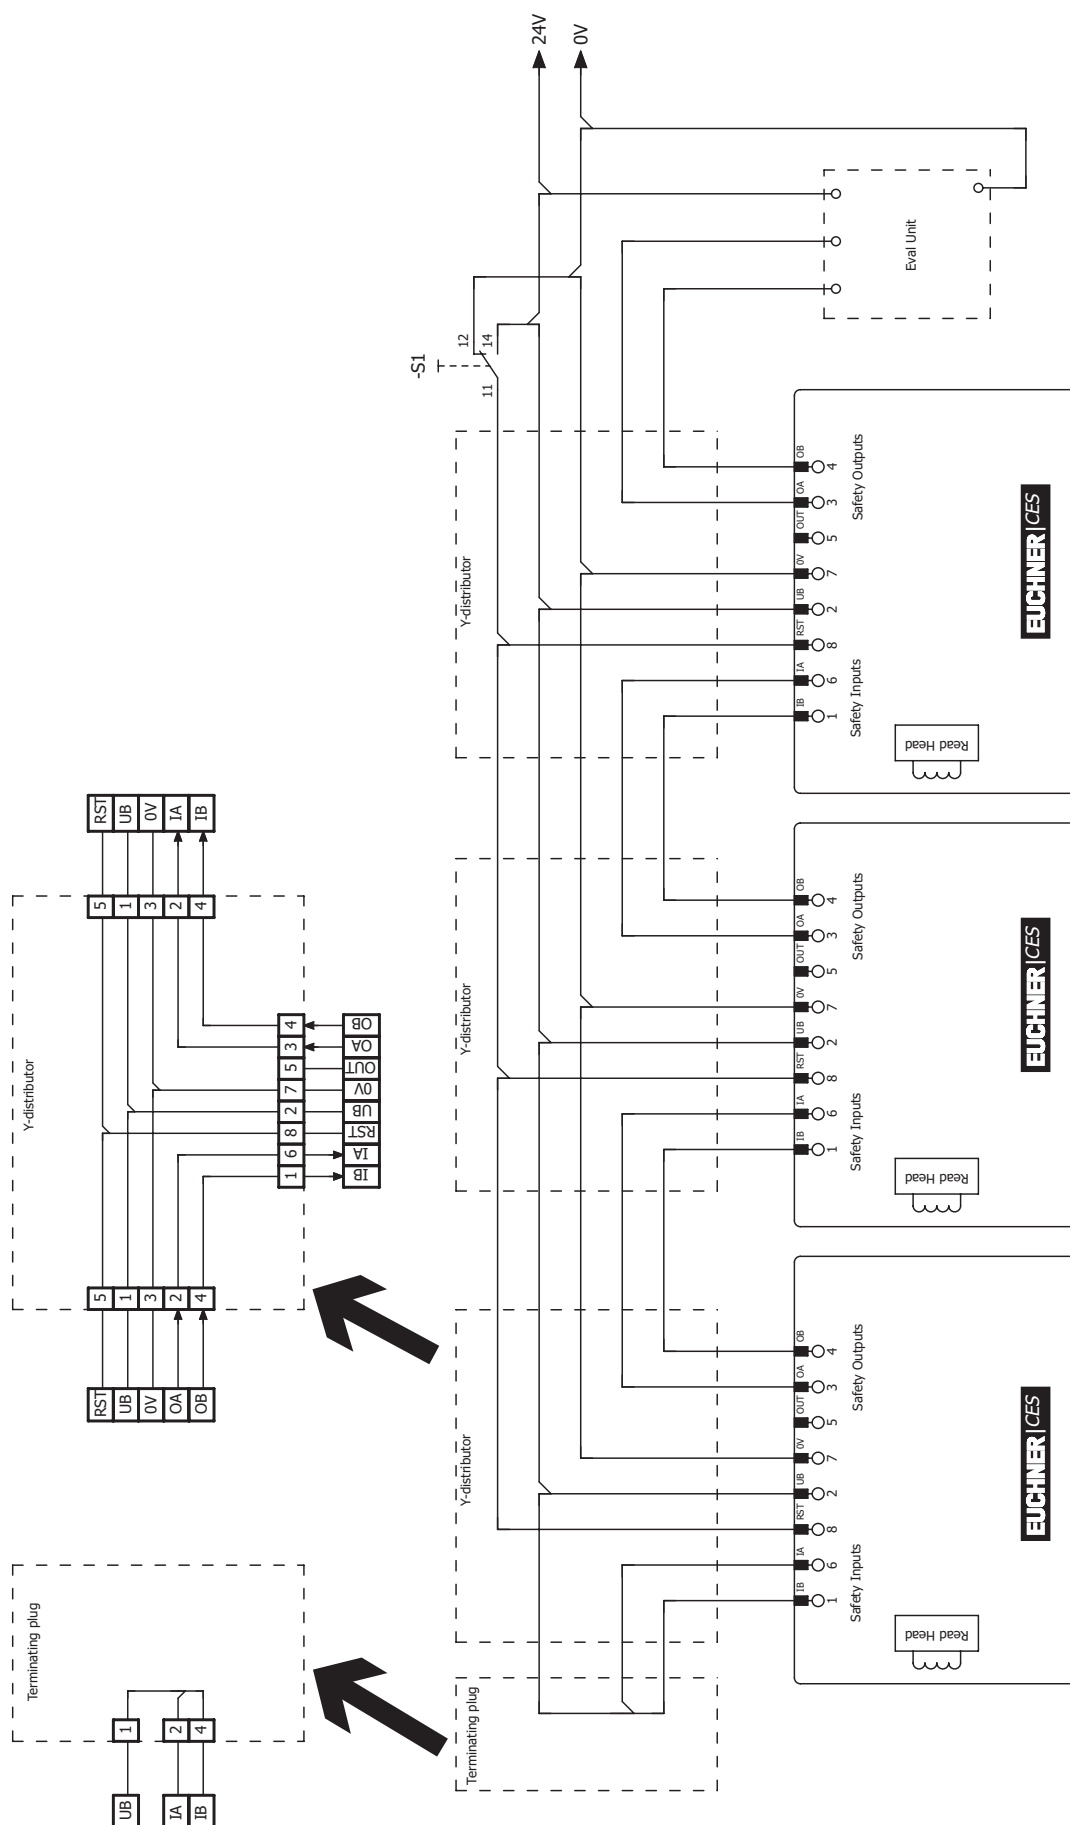

Fig. 4: Connection example for series connection with reset and changeover switch
- › A common signal must be used for all switches in the chain. This can be a changeover switch or the output of a control system. A pushbutton is not suitable because the reset must always be connected to GND during operation (see switch S1 in *Fig. 4 on page 19*).
The RST input must be connected as shown in *Fig. 4 on page 19* to permit this.